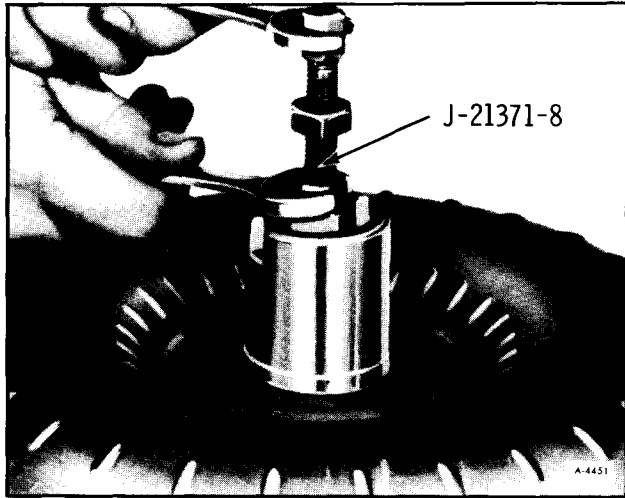

Figure 108—Installing Fixture J-21371-8
- b. Install collet end of Fixture J-21371-8 into converter hub until it bottoms, then tighten its cap nut to 5 lb. ft., Figure 108.